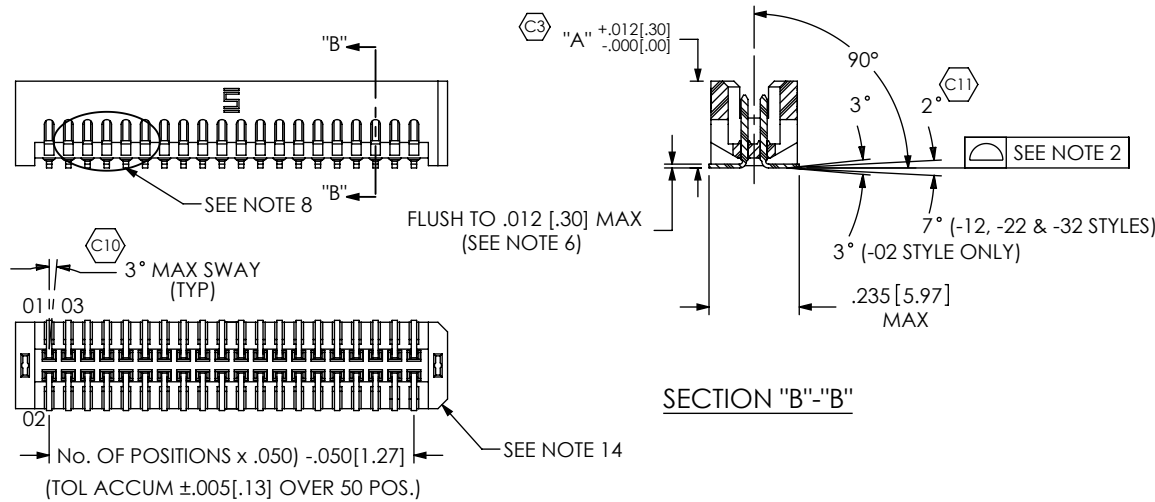

FIGURE 3
-K: POLYIMIDE FILM (SEE FIG. 3)